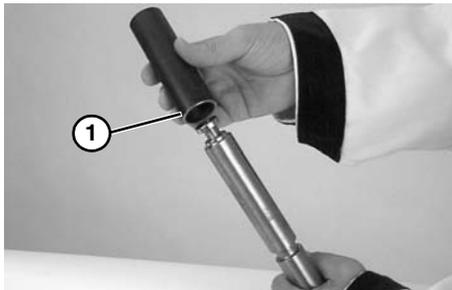

Figure 60
4. Slide sleeve (Figure 60, item 1) of tool over bearing.